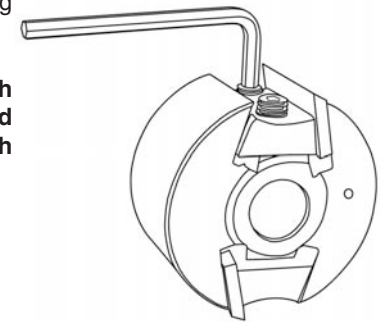

Figure 2
- 1) Unscrew both set screws (A) Fig.1 with the supplied hex. key until the wedge block (B) lowers down and the bottom portion of the wedge block touches the cutterhead, see Fig.2.